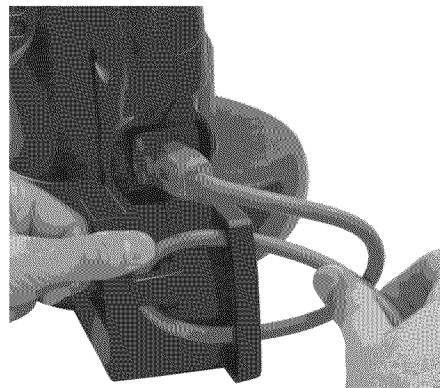

Figure 5 - Pull extension cord loop tight around molded cord hitch
3. Pull the loop tight around the molded cord hitch (see Figure 5).